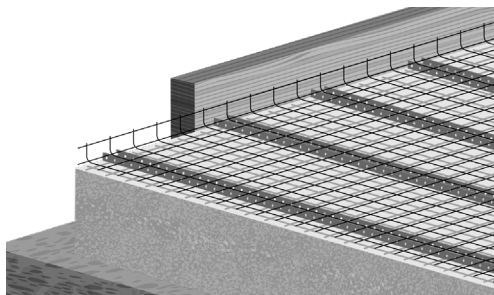

Fig. 14. Installing chicken wire
3. The heating cable must be fastened between the joists to chicken wire or another non-combustible material. The chicken wire is fastened between the joists so that there is a minimum of 30 mm up to the backside of the flooring. Under the chicken wire, there must be insulation and the chicken wire cannot be placed directly on insulation (Fig. 14).